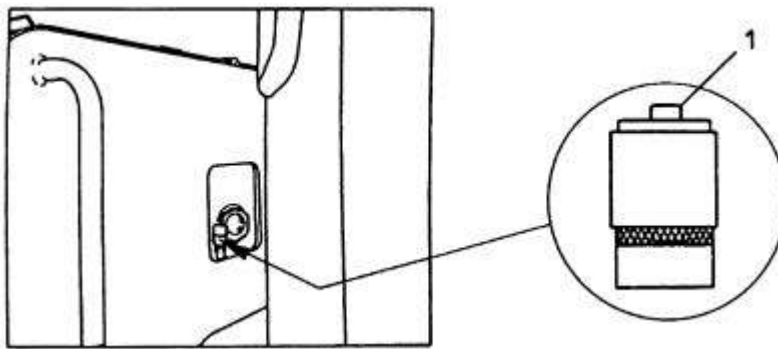

Fig. 5.10. Air Cleaner Service Indicator
**IMPORTANT:** *After servicing the filter element press reset button 1, Fig. 5.10. to reset the air cleaner service indicator.*